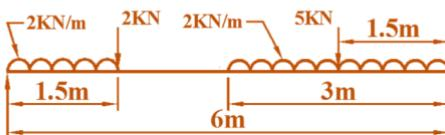

Fig.P7.18
13. Draw the SF and BM diagrams for a simply supported beam loaded as shown in fig.P7.18. Determine the maximum BM in the beam. (Apr.93, Oct.95)